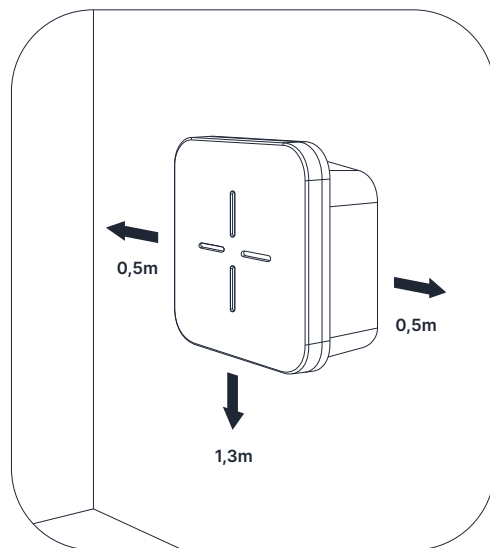

Fig. 13 - The free area around the charger when installed on a wall
- Make sure there is enough space to install the charger (see chapter **4.5 Overall and mounting dimensions** and **Fig. 13 Free area around the charger** when installed on a wall);